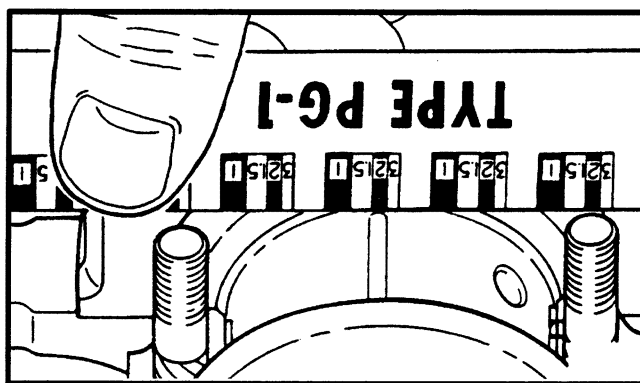

FIGURE 22. MEASURE THE PLASTIGAGE® ON A BEARING JOURNAL
6. Remove the main bearing cap. The Plastigage will be compressed and wider and will adhere to either the bearing or its journal. Use the scale on the envelope for the Plastigage to measure the width of the plastic at its widest point. The scale will indicate the clearance in millimetres or thousandths of an inch. See FIGURE 22.
- b. Remove the bearing cap. The Plastigage will be compressed and wider and will adhere to either the bearing or its journal. Use the scale on the envelope for the Plastigage to measure the width of the plastic at its widest point. The scale will indicate the clearance in millimetres or thousandths of an inch. See FIGURE 22.